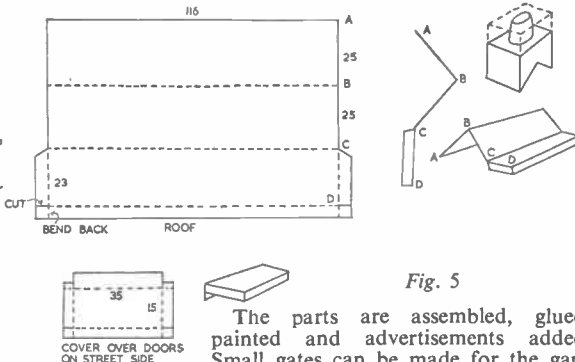

Fig. 5
- Fig. 5—Roof and covers over platform and steps on street side. Chimney cut out of strip
and measurements are given in Fig. 5. The card is bent along the dotted lines as indicated. Two wooden angle pieces can be added if extra strengthening is needed for the cover over the platform. The chimney and stack is made from a small rectangular strip of wood, filing one end round to form the chimney. Cut out the inverted V-shape at base to fit over roof. For the back of the building a cardboard cover is cut, bent
and fixed over the doors leading out of the station building (Fig. 5).